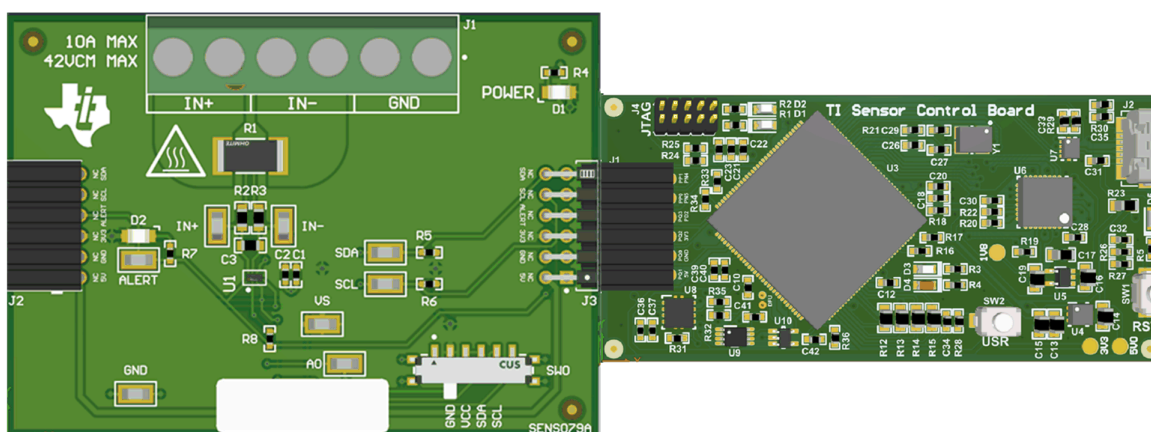

Figure 4-1. EVM Connected to SCB Controller
3. Attach the EVM to the SCB Controller as shown in Figure 4-1.
To use the EVM with the SCB Controller (sold separately), connect the EVM as shown in Figure 4-1.